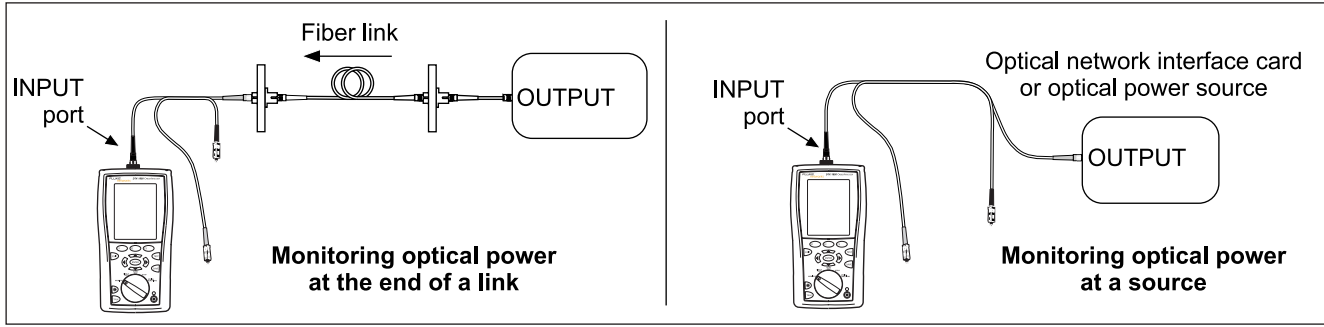

Figure 7-27. Connections for Monitoring Optical Power (MONITOR mode)
- 2 Use the reference test cord to connect the source to the tester's input port, as shown in Figure 7-27.